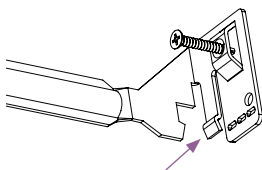

fig. 4
- T- Grid ceiling only: Bend the tabs on the nailer bars to lock them to the t-grid (see fig. 4).